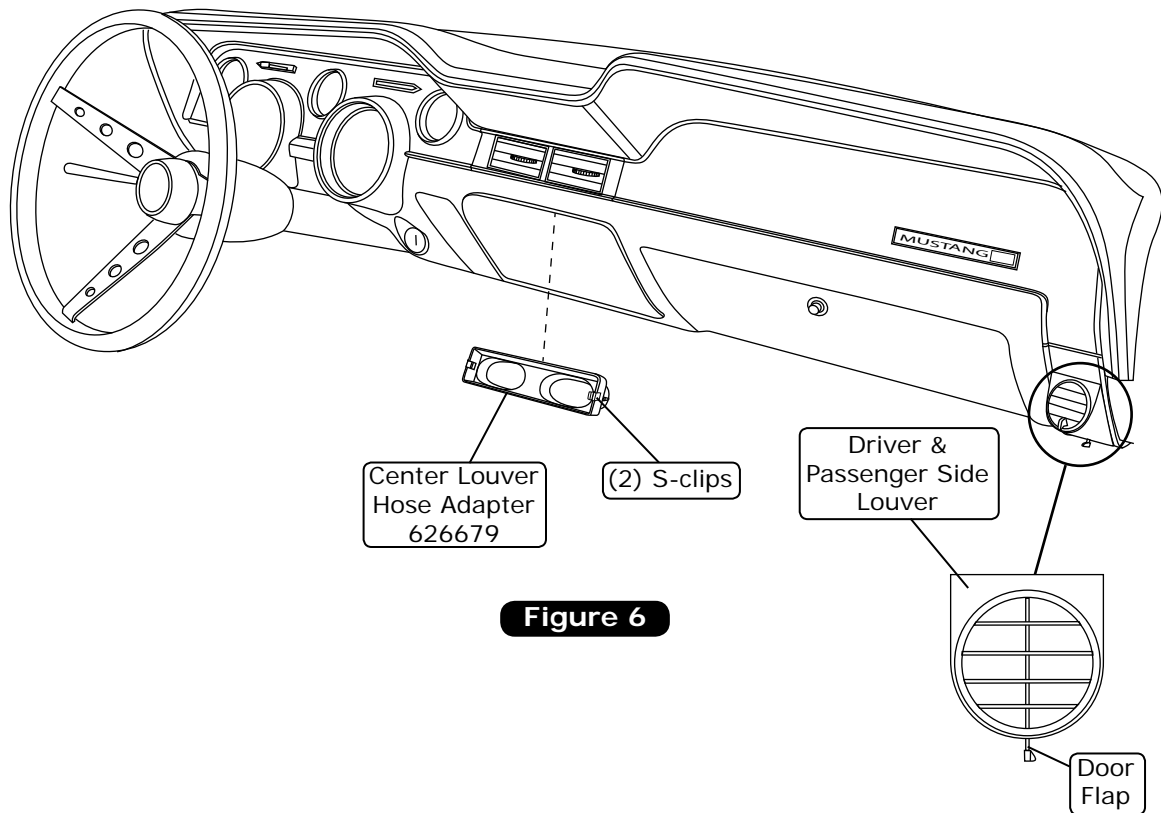

Figure 6
1. Install S-clips onto the center louver hose adapter (See Figure 6, below).
2. Install the center louver hose adapter onto the outside of the OEM center louver assembly through the radio opening as shown in Figure 6, below.
3. Remove the driver and passenger side louver door flaps (See Figure 6, below).